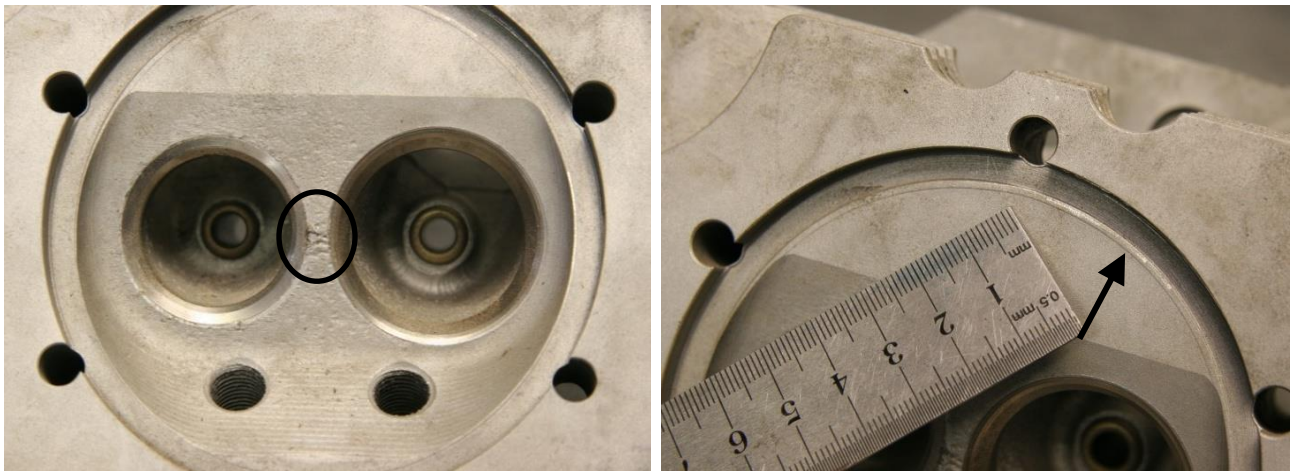

Figure 87 – Cracking Between Valves, Recessed Cylinder Spigot
- Figure 87 (right) is a cylinder head in which the cylinder has crushed into the cylinder head. This can be caused by over-tensioning or operating the engine with too-high CHT's. This is not acceptable for re-use as it alters the engines compression ratio.